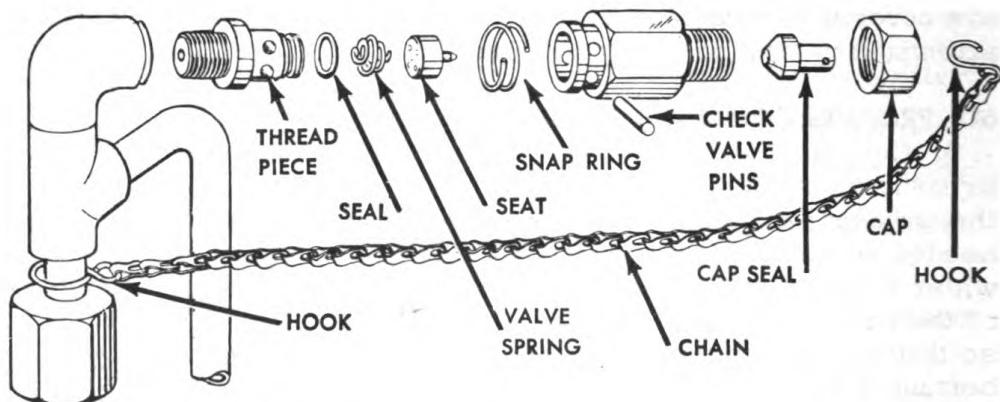

Fig. 55. Exploded view of pressure charging valve.
- d. Disassembly. (1) Remove snap ring.
(2) Remove check valve pins.
(3) Separate parts of valve (fig. 55).
- e. Assembly. (1) Replace parts in order shown in figure 55.
(2) Insert check valve.